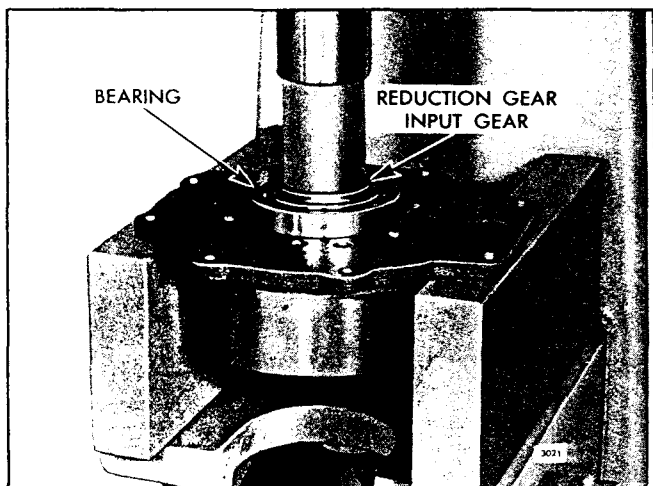

Fig. 40 - Removing Reduction Gear Input Gear from Input Gear Bearing (1.5:1 Ratio)
- c. Support the reduction gear adaptor, input gear and ring gear assembly on two steel supports on the bed of an arbor press with the ring gear side down as shown in Fig. 40.
- d. Place a 1-7/8" round steel bar on top of the input gear hub and under the ram of the press as shown in Fig. 40.